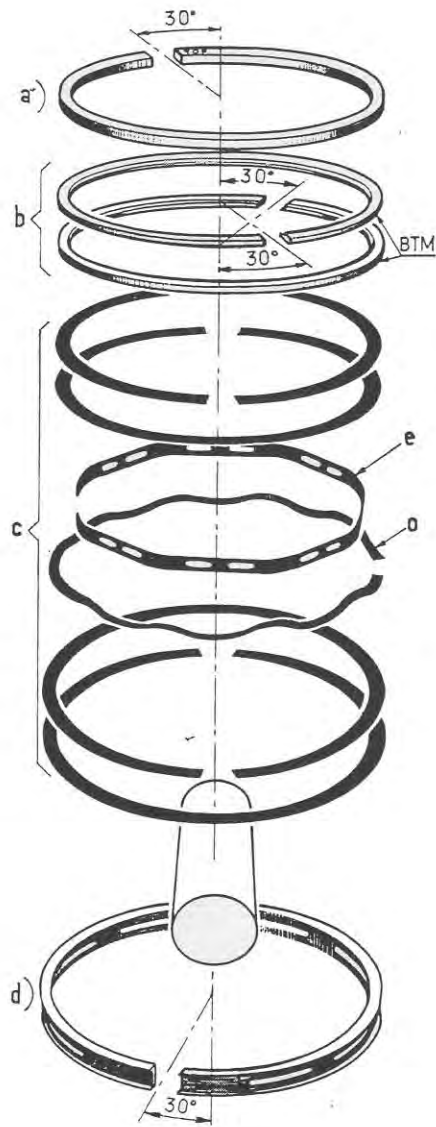

Fig. 33
- Should oil consumption be excessive on the A 4-107 Engine it is recommended to replace the original piston rings by a "Welworthy" set (see Fig. 33).
The gaps must be at 30° to the right or left of the centre line of the gudgeon pin. At the same time the gaps on adjacent rings must be at 180° to each other i.e. on opposite sides of the piston (see Fig. 33).